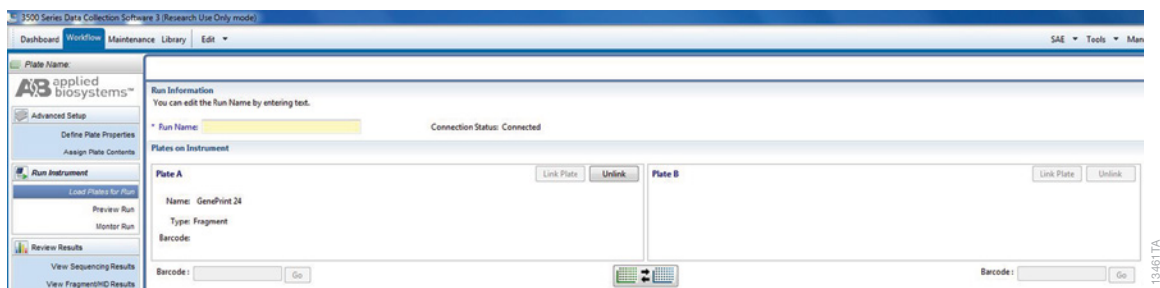

Figure 11. Assigning a run name.
- k. In the Run Information window (Figure 11), assign a Run Name. Select **Start Run** (not shown).